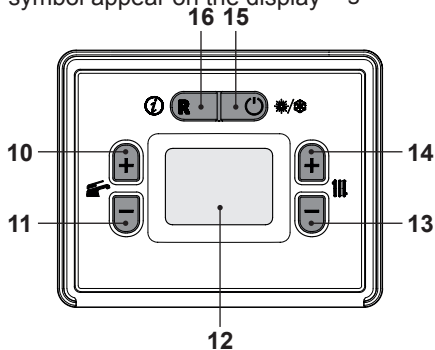

Fig. 2.7
- Press the key 15 and hold until both  symbol appear on the display Fig. 2.7.
The output temperature of C.H. water can be adjusted by pressing keys 13 (reduce) and 14 (increase) (Fig. 2.7) from a minimum
However, if the ambient temperature is not comfortable, the flow temperature of the heating system can be adjusted by  $\pm 15^{\circ}\text{C}$  by pressing on keys 13 (reduce) and 14 (increase) (Fig. 2.7).